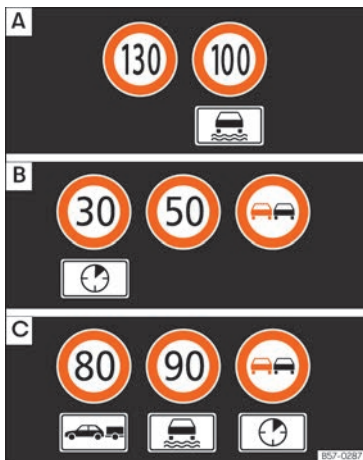

Fig. 74 On the instrument panel display: examples of speed limits or overtaking prohibitions with their respective additional signs.
The traffic signs detected by the system are displayed on the dash panel display »» Fig. 74 and, depending on the navigation system fitted in the vehicle, on the infotainment system as well »» page 89.
When the traffic sign detection system is connected, a camera located on the base of the interior rear-view mirror records the traffic signs in front of the vehicle. After checking and evaluating the information from the camera, the navigation system and the current vehicle data, up to three valid road signs are displayed, **»» Fig. 74 [B]** with their additional signs.
- **First:** The sign that is currently valid for the driver is shown in the left side of the screen. For example, a maximum speed limit of **130 km/h (100 mph)** **»» Fig. 74 [A]**.
- **Third:** A sign valid only with restrictions, e.g. No overtaking at certain times, will be displayed in third place **»» Fig. 74 [C]**.